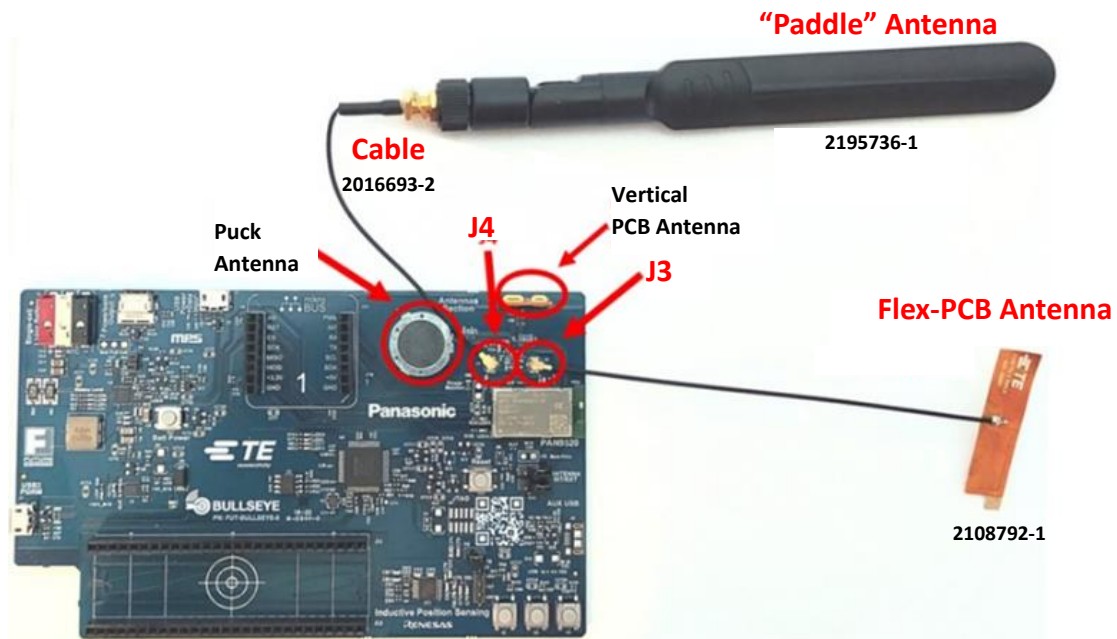

Fig.3 Antennas Connection
- Connect the “Flex-PCB” antenna (TE# 2108792-1) to connector (J3), as shown in Fig.3. (This antenna is typically taped to the back of the PCB for shipping)
- Connect the “Paddle” antenna (TE# 2195736-1) to connector (J4), using the provided cable (TE# 2016693-2), as shown in Fig.3